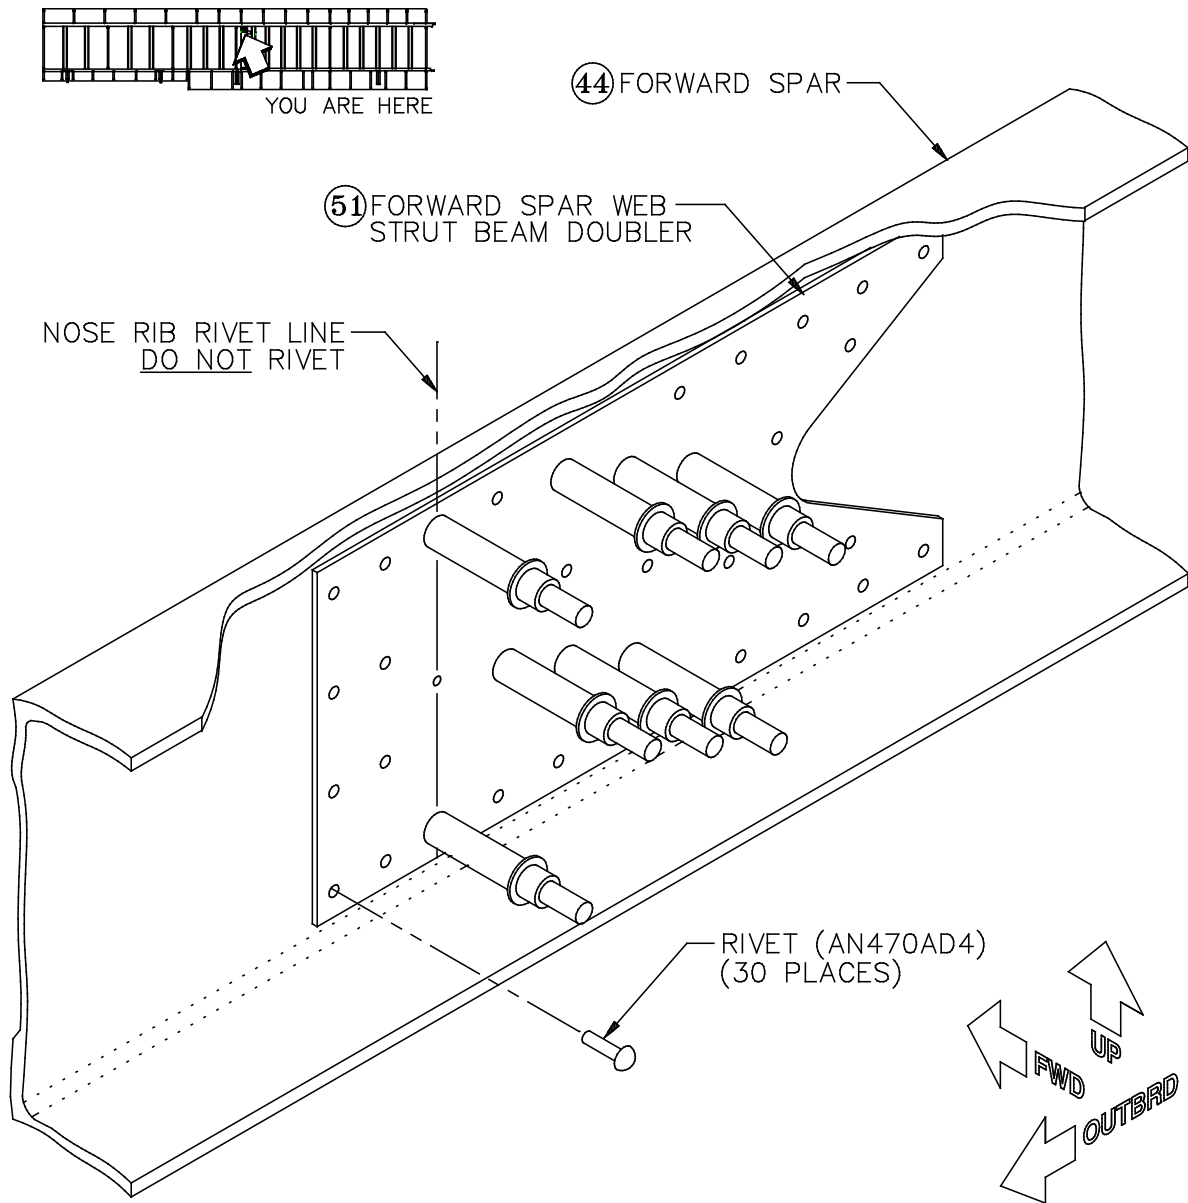

Figure 24: Riveting the Forward Spar Web/Strut Beam Doubler
- B)** Rivet the forward spar web/strut beam doubler to the forward spar with 1/8" (AN470AD4) universal head rivets. Position the rivet heads on the aft side of the assembly, as shown in Figure 24. **Do not** rivet in the three holes where the nose rib will mount (these are the holes that were left undrilled previously).